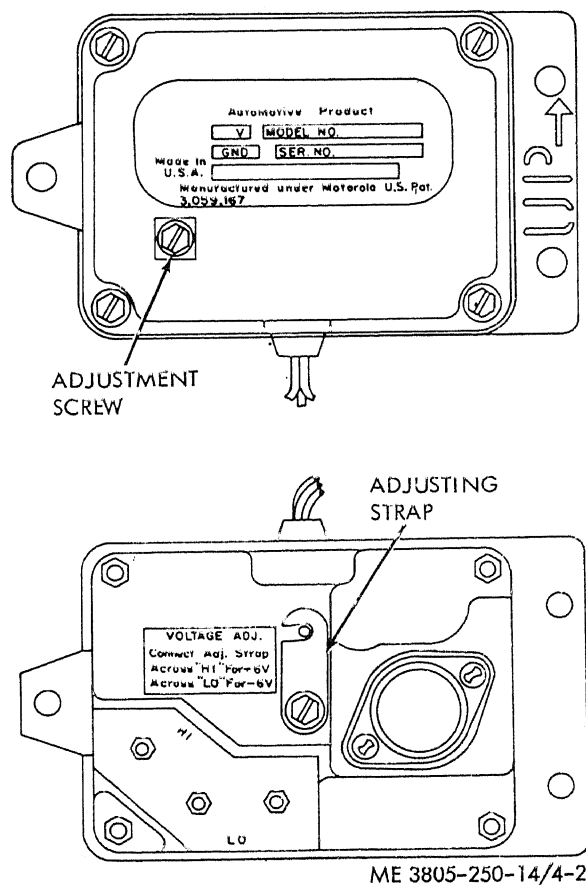

Figure 4-23. Regulator adjustment.
(1) Raise or lower the output voltage by 6 volts by placing an adjusting strap (fig. 4-23) across two "HI" screws to raise voltage or across the two "LO" screws to lower the voltage.
(2) Make fine adjustments of output voltage by means of the adjustment screw (fig. 4-23) as follows: